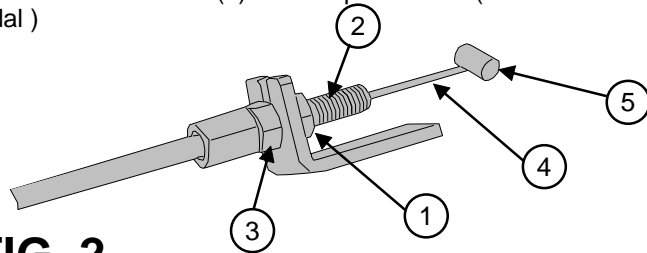

FIG. 2
VALVE TO PEDAL CONNECTION (SEE FIG. 2)
8. Connect actuator cable to the pedal (see Fig. 2). Keep actuator cable as straight as possible, avoiding unnecessary bends.